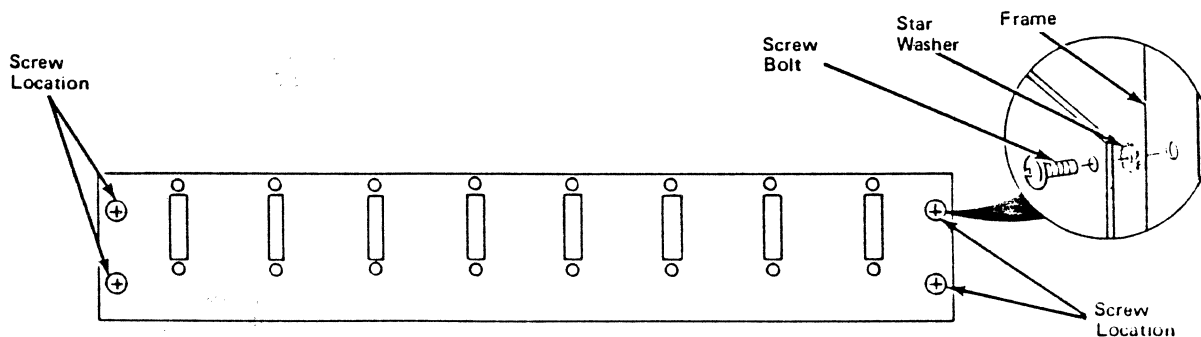

Figure 9-9. Screw Locations for I/O Panels
- Remove the four screws that secure the I/O Panel to the I/O panel frame (Figure 9-9).